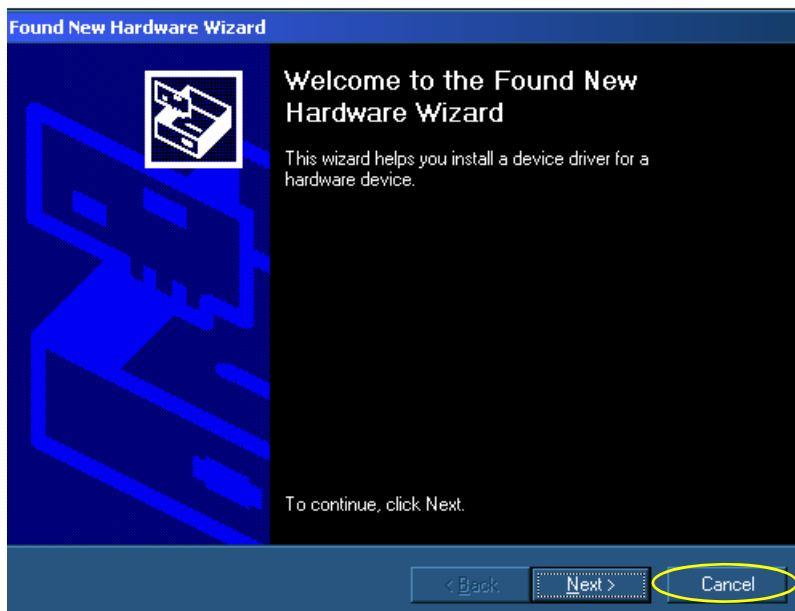

Figure 8-179 Found New Hardware Wizard
6.) When the *Found New Hardware Wizard* opens, click **Cancel**, see Figure 8-179 below.